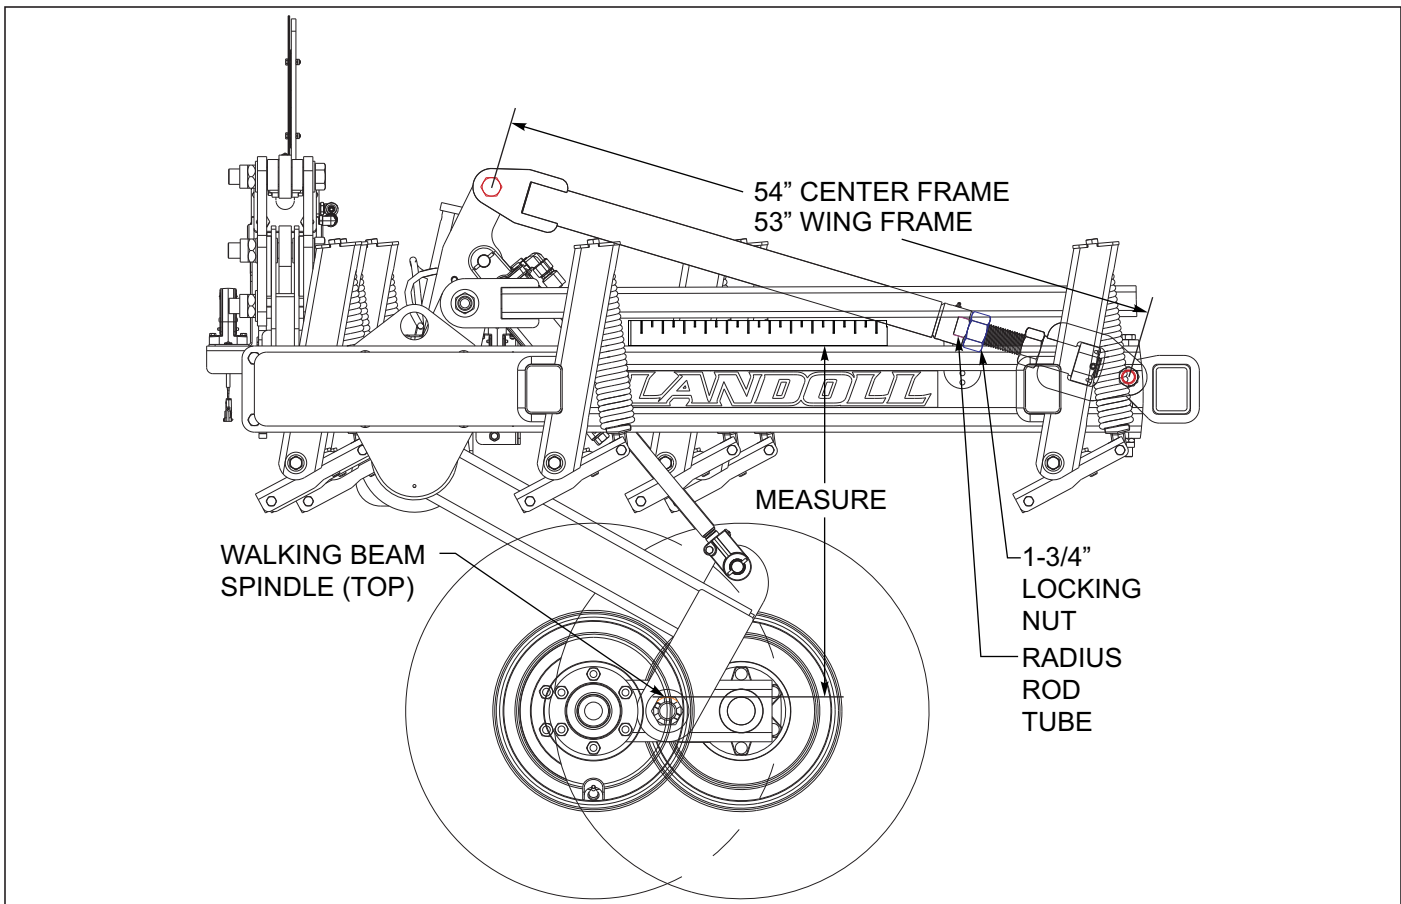

Figure 4-6: Leveling from Side to Side
2. To level the unit, verify that all tires are properly inflated. With the implement unfolded, raise the unit to fully extend the lift cylinders. Continue to hold the tractor lever 30-60 seconds to insure that the cylinders are fully extended and the rephasing lift system has been purged of air. Lower the implement until the sweeps are approximately 1" off the ground. On the center frame, lay a straight-edge across the top of the frame, and measure the distance from the walking tandem spindle to the top side of the frame of both walking tandems See Figure 4-6. Adjust the center radius rod at the front of the Field Cultivator center frame until the spindle heights are the same.